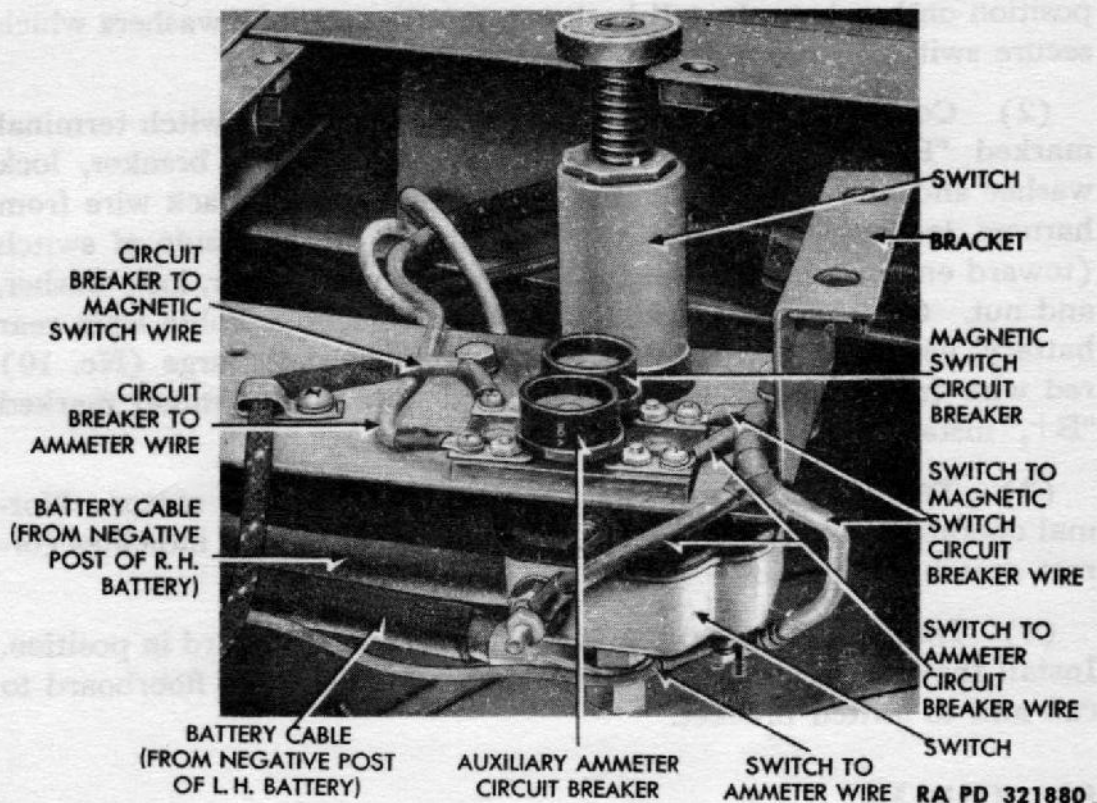

Figure 64 - Cranking Motor Switch
a. **Description** (fig. 64). The cranking motor switch is located on the cab floor to the left of the driver's seat. The main body of the switch is on a bracket immediately below the left-hand floorboard. The push button extends through the floorboard into the driver's compartment. Access to the main body is through the left-hand floorboard opening. This manually operated switch is of the series-parallel type. When depressed, the switch connects the batteries in series for 12-volt cranking motor operation. When released, the switch connects the batteries in parallel for 6-volt generator operation.
b. **Removal** (fig. 64).
(2) **DISCONNECT WIRES FROM SWITCH** (fig. 64). Disconnect all wires from switch. Tag wires to facilitate installation.
(3) **DETACH SWITCH FROM BRACKET** (fig. 64). Remove the two cap screws and lock washers which secure switch to bracket. Lift switch from bracket.
(1) **ATTACH SWITCH TO BRACKET** (fig. 64). Place switch in
(2) **CONNECT WIRING TO SWITCH** (fig. 64). On switch terminal marked "B," install red wire from left-hand circuit breaker, lock washer and nut. On terminal marked "SW," install black wire from harness, lock washer, and nut. On terminal on right side of switch (toward engine), install green wire from circuit breaker, lock washer, and nut. On terminal marked "A-," install negative cable from rear battery, yellow wire with black tracer from harness, large (No. 10) red wire from harness, lock washer, and nut. On terminal marked "B+," install positive cable from front battery.